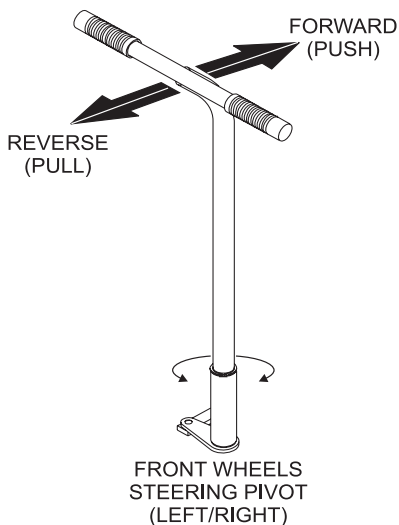

Figure 7. T-Handle (Directional Control)
1. Using the T-handle (Figure 7) place the GloBug on a ***firm level surface*** so that it will not slide or turn over.